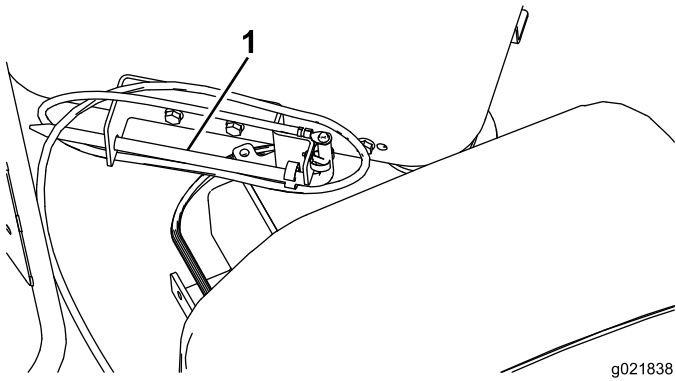

Figure 78
1. Remove the grounding stake from the holder on the side of the operator platform (Figure 78).
2. Move the drive carriage fully down the drill frame and spray the spindle threads with thread joint compound, then return the drive carriage to the upper end of the frame (Figure 78).